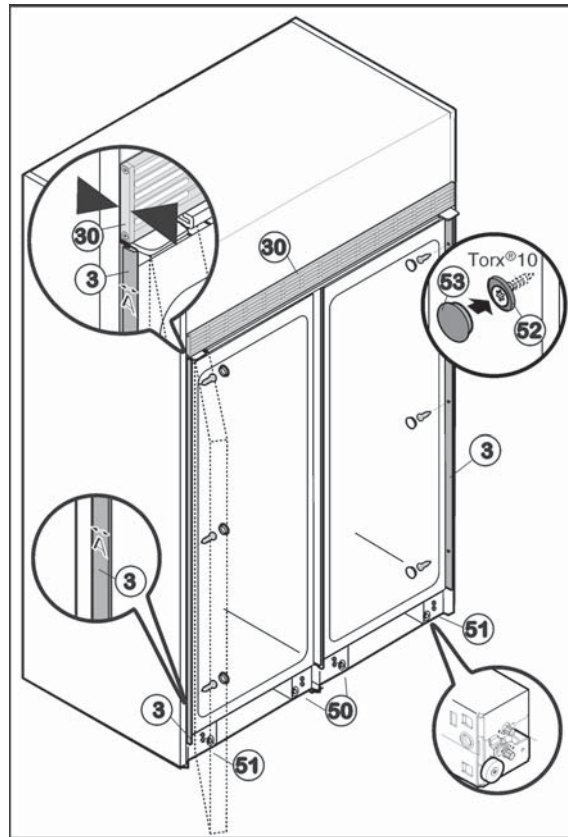

Fig. 52
- Push the appliance into the recess until the rear edge of the ventilation grille Fig. 52 (30) is flush with the front edge of the side wall of the cabinet.
- Completely screw in the two centre roller bases Fig. 52 (50) at the front and rear such that the appliance is only resting on the outer roller bases. This enables the two appliances connected to each other to be aligned jointly like a single appliance.
- Align appliance inside the recess by adjusting the outer roller bases Fig. 52 (51) and using a spirit level.
- At the top and bottom of the recess check the gap **A** between the front edge of the installation strip Fig. 52 (3) and the front edge of the side wall of the unit. It must be 1/2 " (13 mm). Realign the appliance in the recess if required.
- Secure appliance inside the recess using three screws Fig. 52 (52) hinge side of each appliance. Do not scratch the side installation strip Fig. 52 (3) when doing so.
- Place cover caps Fig. 52 (53) over the screws.
- Being careful not to affect the level, lower the levelling wheels in the center roller bases Fig. 52 (50) until they are resting on the floor.
- Fit lower ventilation grille Fig. 52 (54) flush with the floor such that the rubber lip is at the top. It is held in place via magnets.